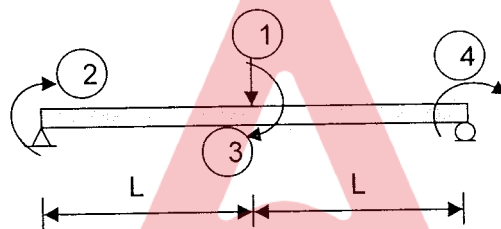

Fig. 3
4. Generate the stiffness matrix for the beam with respect the coordinates shown in the Fig.3 (40)